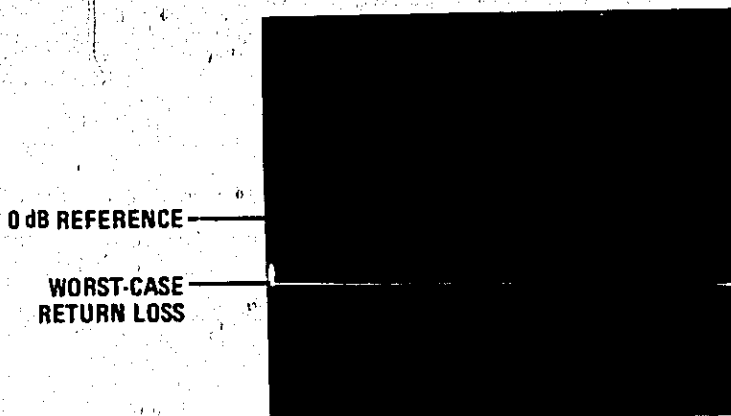

Figure 20. INCIDENT Port Return Loss (0.5 to 2 MHz)
- (1) Set 8505A Frequency Control RANGE MHz switch to .5 to 13. Adjust FREQUENCY START control to 00.50 and FREQUENCY STOP control to 02.00.
- (2) Repeat steps k through l except that the indication should be  $\geq 23$  dB below the zero dB reference level for the frequency range .5 to 2 MHz (Figure 20).